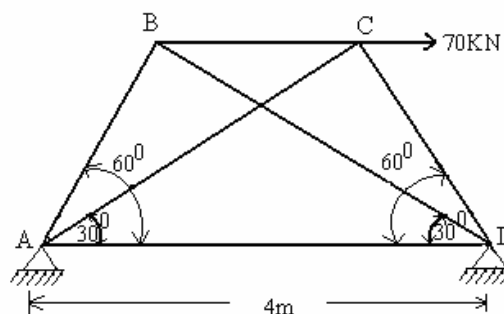

Fig.6
8. A pin-jointed truss shown in Fig.6 is hinged at supports A and D and is subjected to a horizontal force of 70 kN at C. Determine the forces developed in all the members of the truss. Assume cross-sectional area of all members as 5500 mm^2 and modulus of elasticity as 205 GPa. [16]